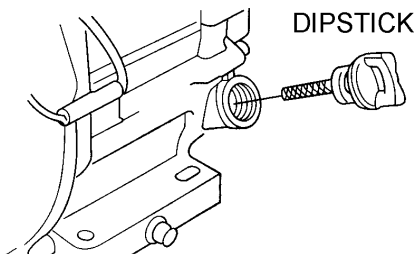

Figure 9. Engine Oil Dipstick Removal
2. Remove the filler dipstick from the engine oil filler hole (Figure 9) and wipe clean.